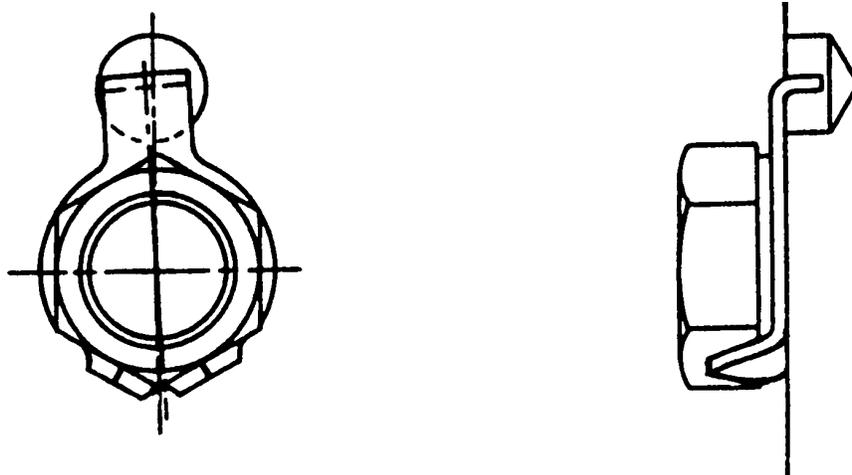

FIGURE 4-3 GENERAL TAB WASHER INSTALLATION PROCEDURE
3. Bend tabs against the head flats firmly by tapping them into place with a soft drift. See Figure 4-3, "General Tab Washer Installation Procedure."